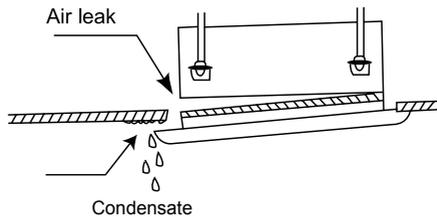

Fig.34
- (2). Improper screwing of the screws may cause the troubles shown in Fig.34.